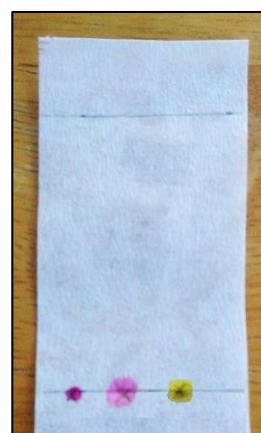

Figure 8. Different sizes of analyte spots.
- i) Repeat this process until you are happy with the size of the spot. The key is not to make the spot too large or diffuse as this might result in poor separation, overlap with other analytes or streaking across the paper sheet. On the other hand, a too small or a faint spot may not give the desired intensity and it may be tricky to see clearly the components of a mixture if they are present in low quantities. It may take a few attempts to strike the right balance. Examples of a spot too small (left), spot too large (centre) and an optimal spot (right) are shown in Figure 8.